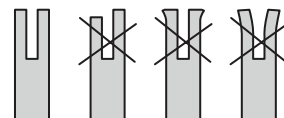

Fig. 44
5. Check the guide bar 'rail' for wear: Hold a ruler (straight edge) against the side of the guide bar and 'cutter side plates'. If there is a gap between the ruler and guide bar the guide bar 'rail' is normal. If there is no gap (ruler flush against the side of the guide bar) the guide bar 'rail' is worn and needs to be replaced with a new one of the same type (Fig. 44).